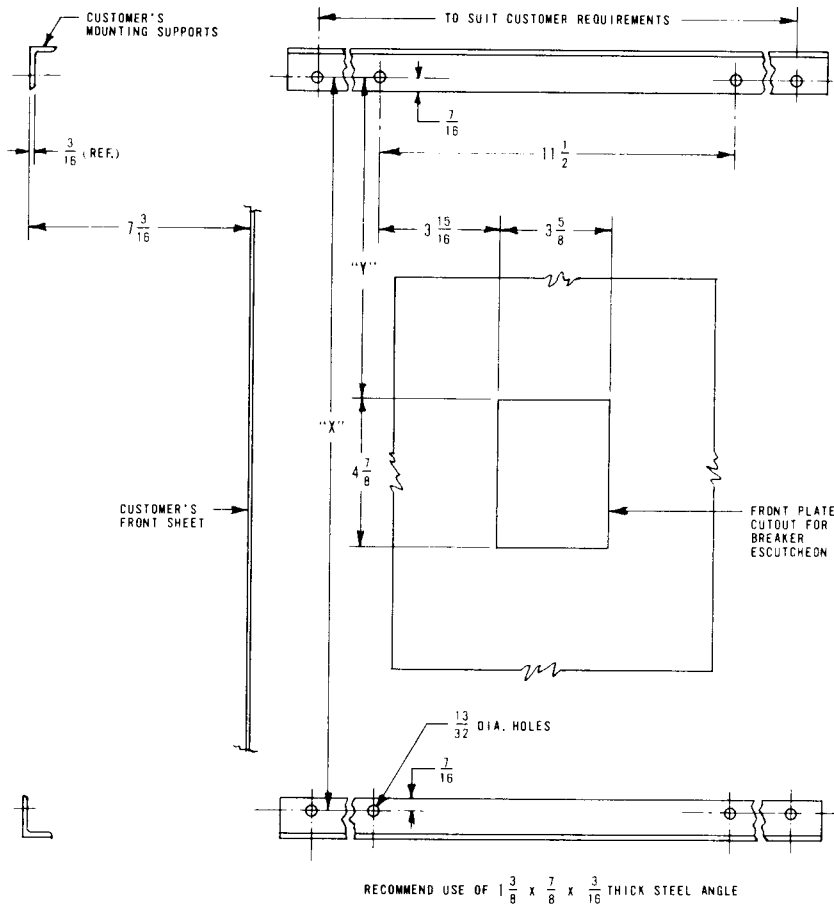

Fig. 6 — Mounting Supports and Front Plate Drilling
1. Drill required holes and provide escutcheon cutout in accordance with mounting arrangement desired (refer to Fig. 6) in support angles and front sheet supplied by customer.